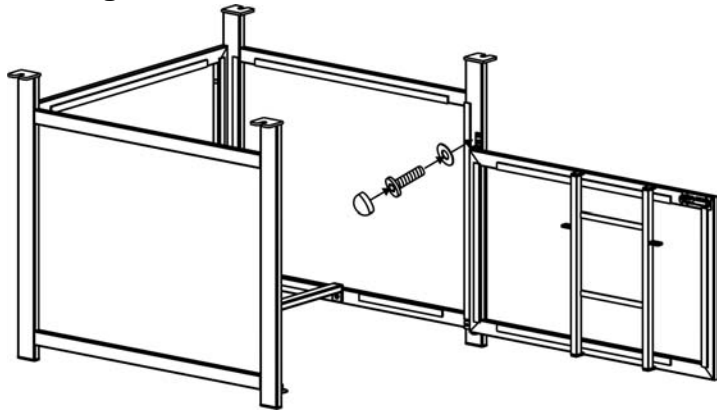

Figure 5
5. Put the door onto the bottom connector by guiding the pin on the bottom connector into the hole under the door. Guide the pin on the top connector into the hole in the top side of the door. Use a 1/4"x15 mm bolt and washer to secure the top connector to the right side panel as shown in Figure 5. **Do not over tighten.**